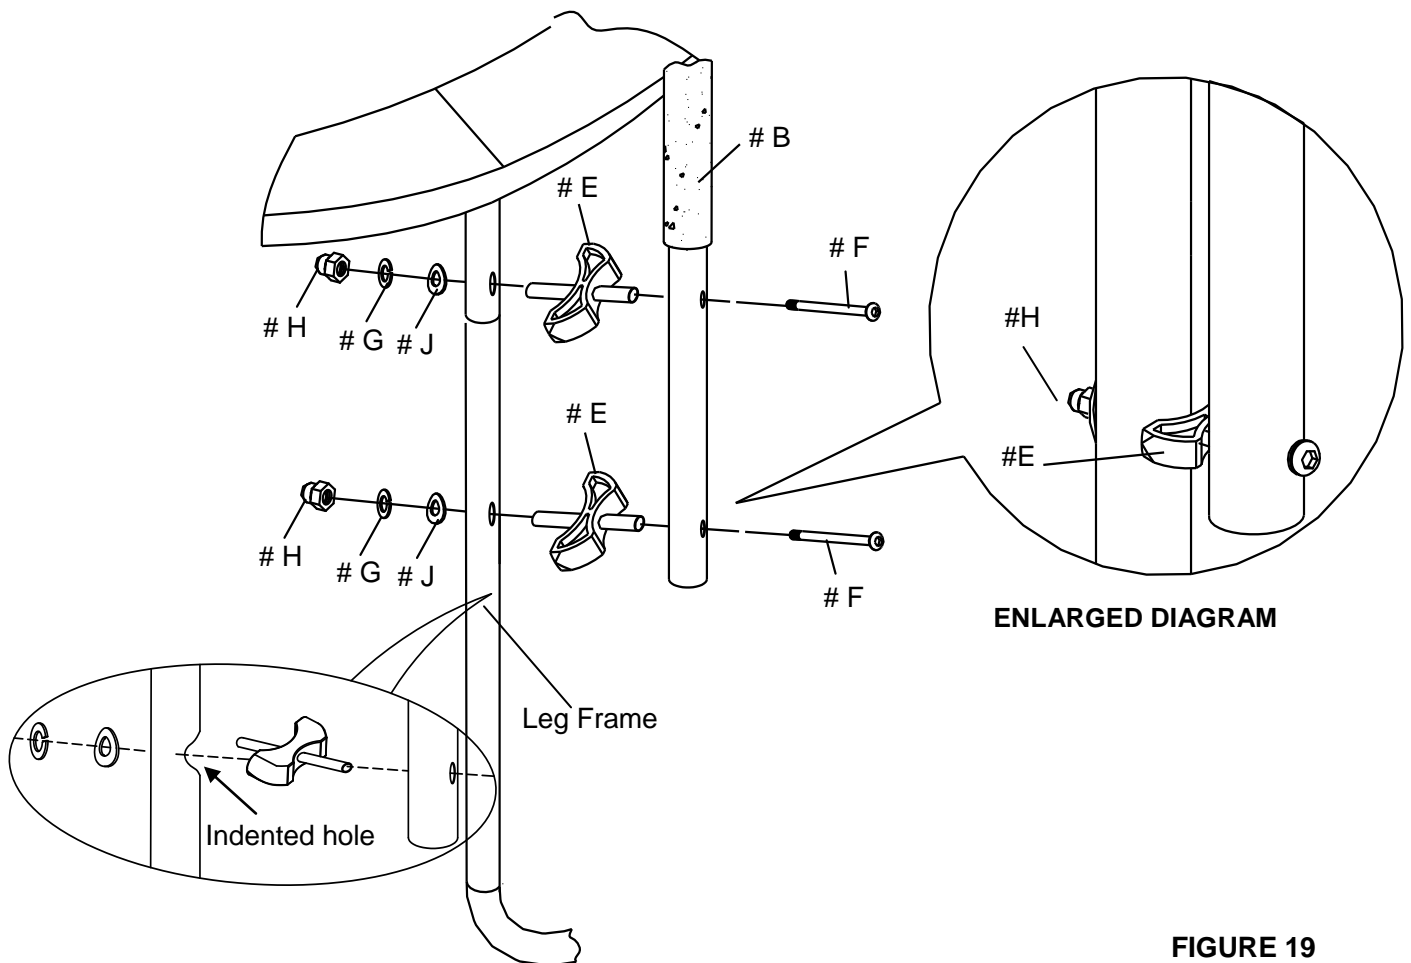

FIGURE 19
C. Connect the Lower Frame Tube with Foam (# B) to the trampoline Leg Frame as shown in FIGURE 19. One person will need to hold the Leg Frame steadily while another installs the Frame Tube.